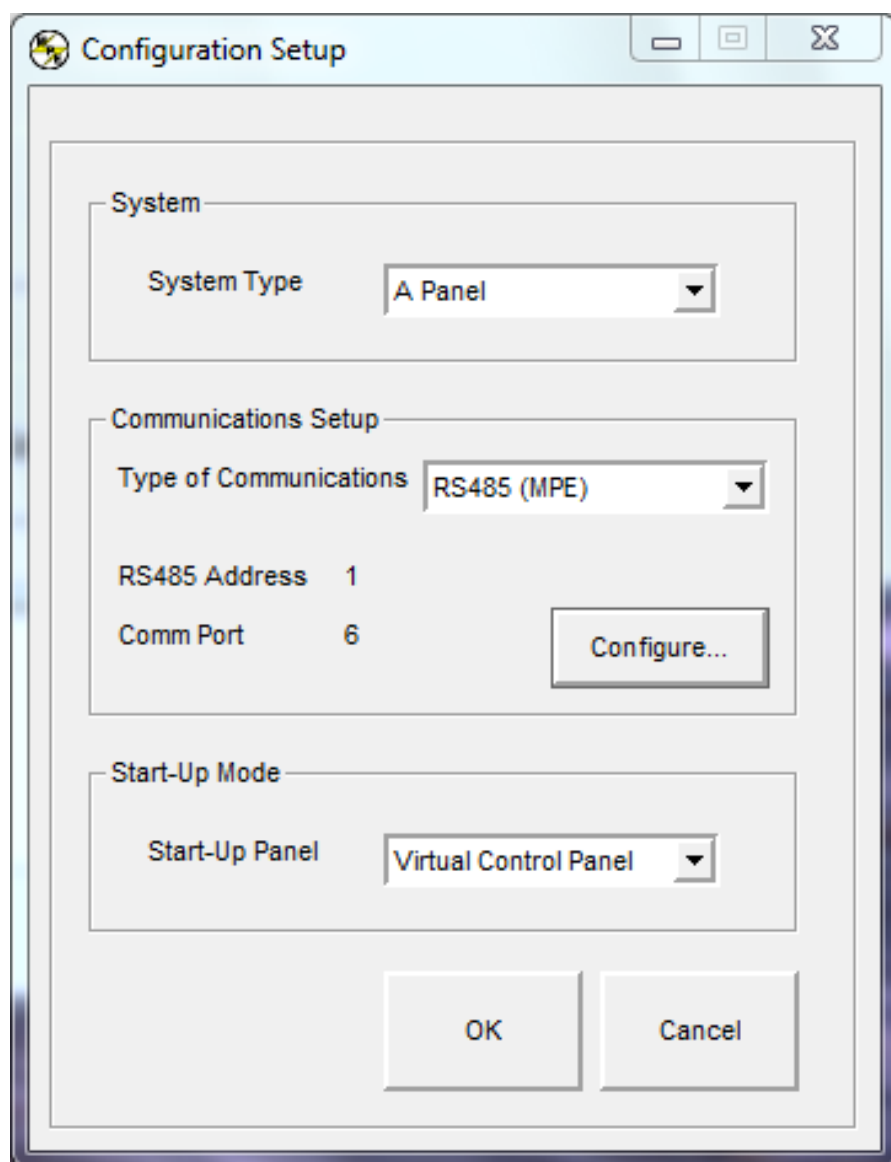
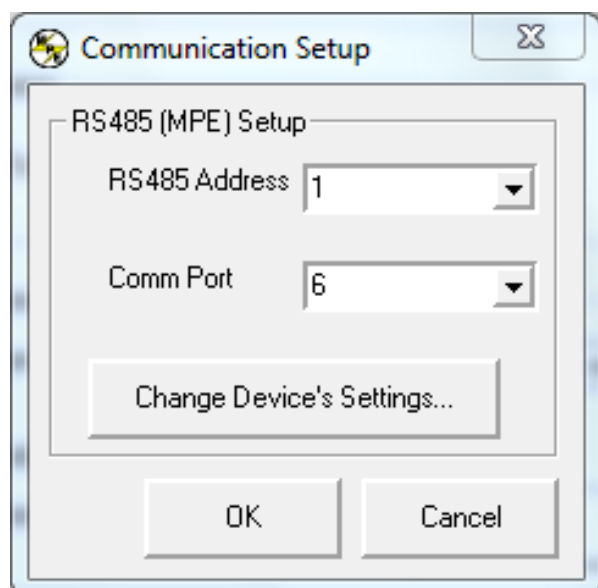

Figure 5.4. RIS Panel Configuration Setup window with RS485 (MPE) selected
Figure 5.5. RIS Panel window to configuring the RS485 setting
4. The **default address is 0**. To change the address, open Magna-Power's RIS Panel software. Select Communication, then select Setup, presenting the window shown in Figure 5.4, "RIS Panel Configuration Setup window with RS485 \(MPE\) selected". Select RS485 (MPE) from the drop-down menu for Type of Communications. Select Configure to choose the appropriate Comm Port number for the computer's RS485 connection and appropriate RS485 address that the RS485 adapter is set to, from the window shown in Figure 5.5, "RIS Panel window to configuring the RS485 setting". From this screen, you can then change the RS485 adapter's address by selecting Change Device's Setting.